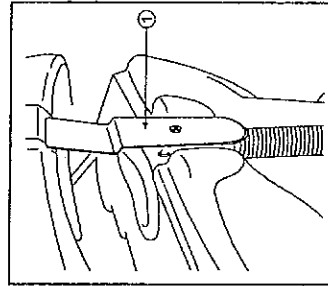

Fig. 5
- 3) unhook the recovery tank (fig. 2, ref. 2) from the solution tank (fig. 2, ref. 7) acting on the blocking hook (fig. 5, ref. 1), placed on front of the machine;
- 7) insert back the tank unit in its work position and hook it to the solution tank by means of the fixing hook (fig. 5, ref. 1);
With reference to fig. 5 the machine has the following controls and leds: